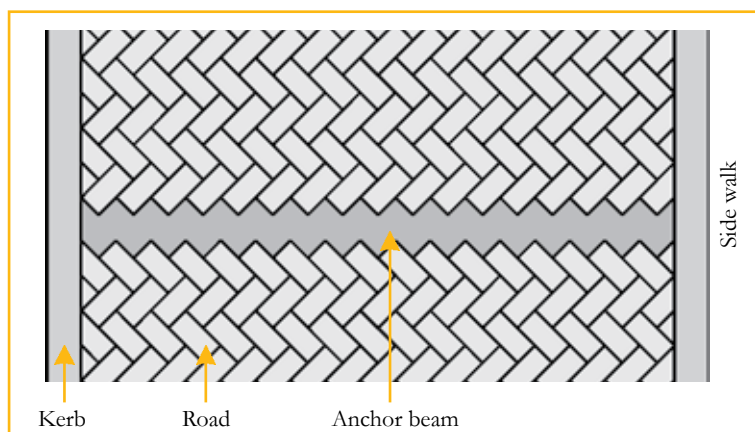

Figure 4 – Herringbone 45° to the kerbing.
- Blocks should be laid in herringbone pattern at 45° to the kerbing. See figure 4. Not only does this practice encourage the flow of water to the side channels, but it maximises the arching action of the paving against the kerb;